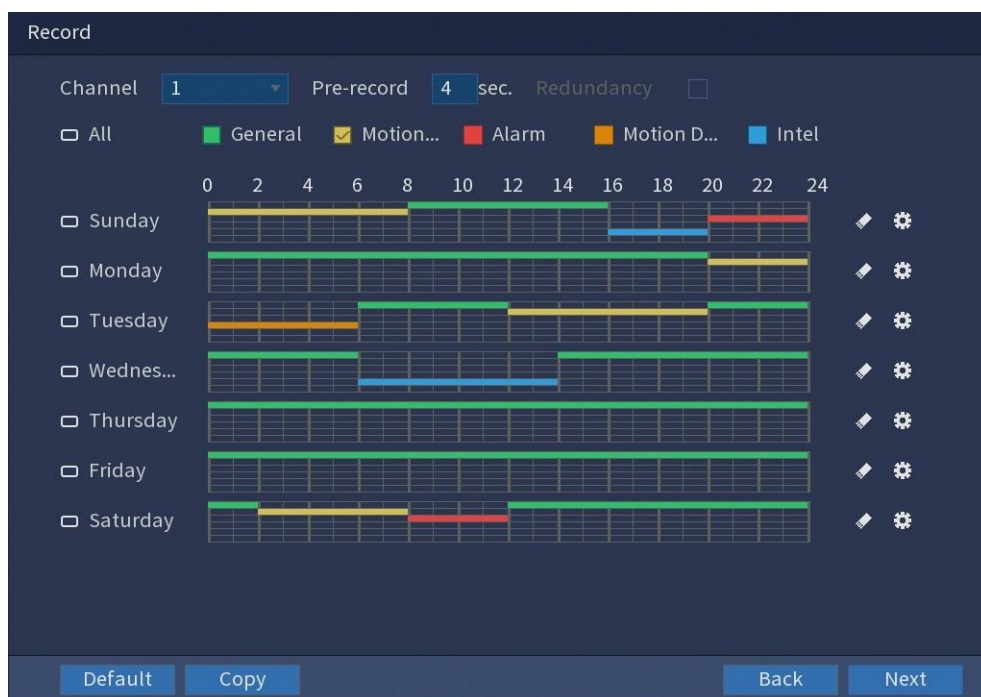

Figure 5-19
3) On the timeline, drag to define a period. The Device starts recording the selected event type in the defined period. See Figure 5-19.